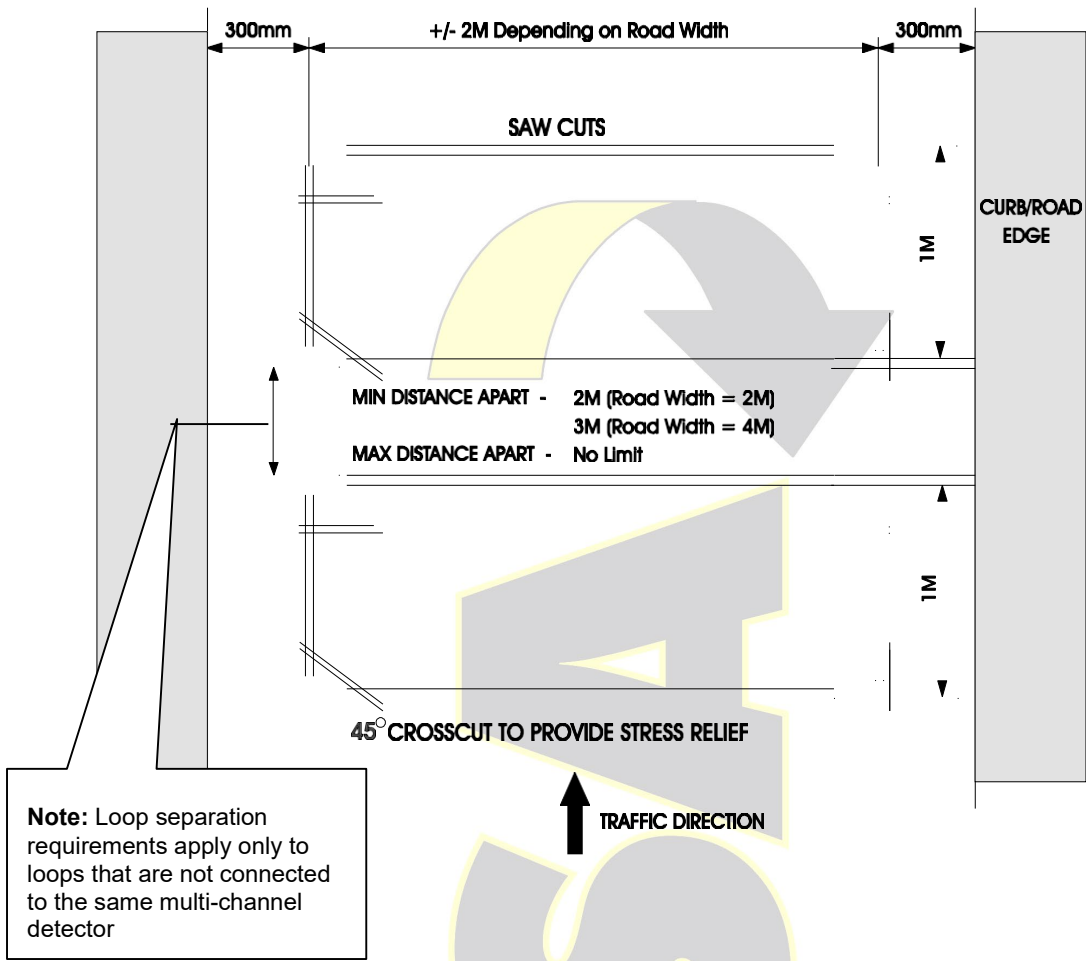

Fig 3 Loop separation requirements for loops not connected to same detector module
- ii. Separation between adjacent loops. Where possible a minimum spacing of 2 metres between loops should be adhered to. (See Fig 3 – Page 4)